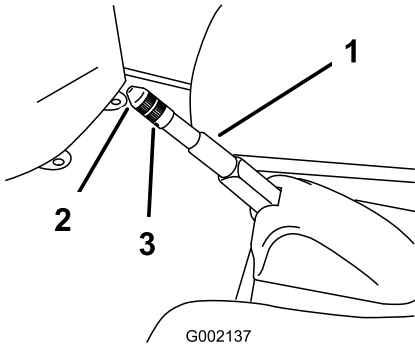

Figure 39
2. Loosen the set screw securing the knob to the parking-brake lever (Figure 39).